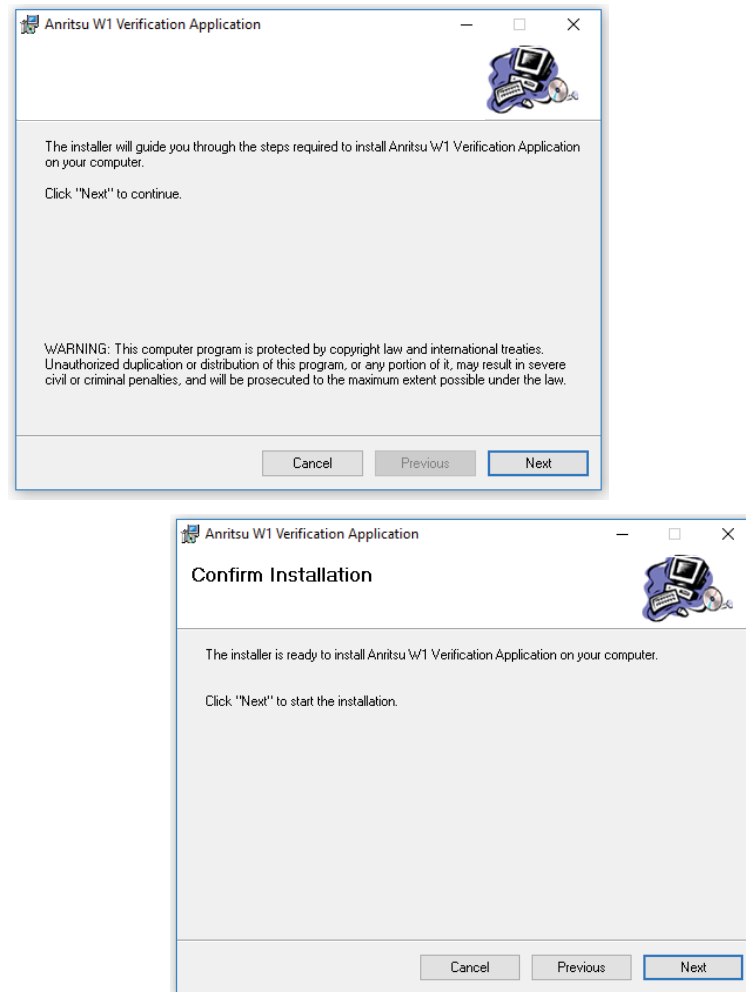

Figure 4-2. Installation Confirmation and Progress Dialog Boxes – Click Next on each
6. Click Run on the two security dialog boxes (Figure 4-2 on page 4-3).